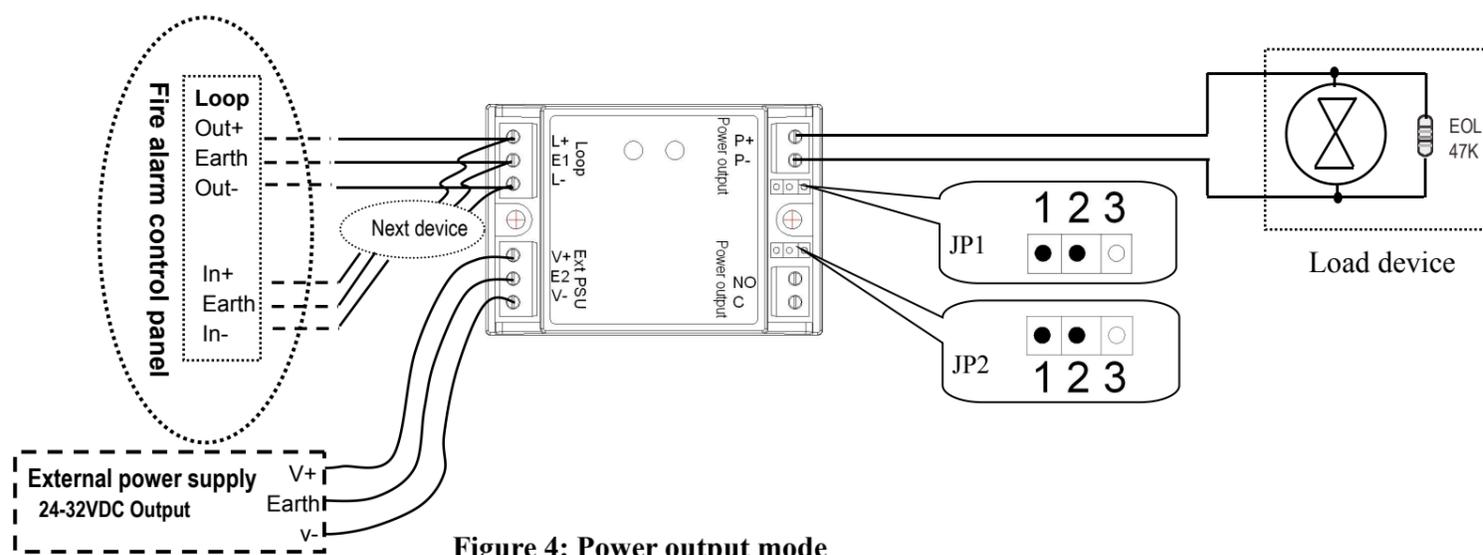

Figure 4: Power output mode
1. Set the pin 1 and pin 2 of the jumper JP1 and JP2 to connected on the module as figure 4.